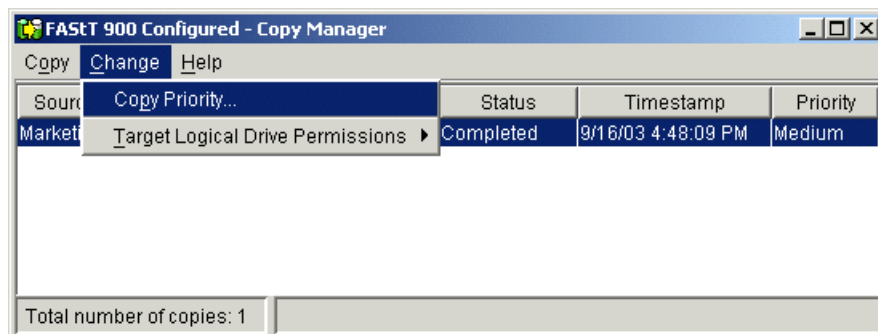

Figure 9-17 Select Copy Priority from Copy Manager
3. Select **Change -> Copy Priority** from the pull-down menu option or the right-mouse pop-up menu (Figure 9-17).